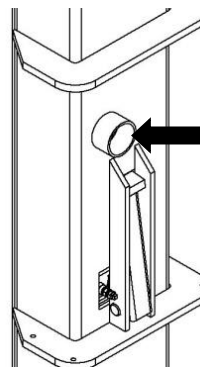

FIGURE 24 : COUVERT DE PROTECTION
1. COUVERT DE PROTECTION ROUGE AU NIVEAU DE LA VALVE DE NIVELAGE SUR LA COLONNE MAITRE. VOIR **FIGURE 24**.